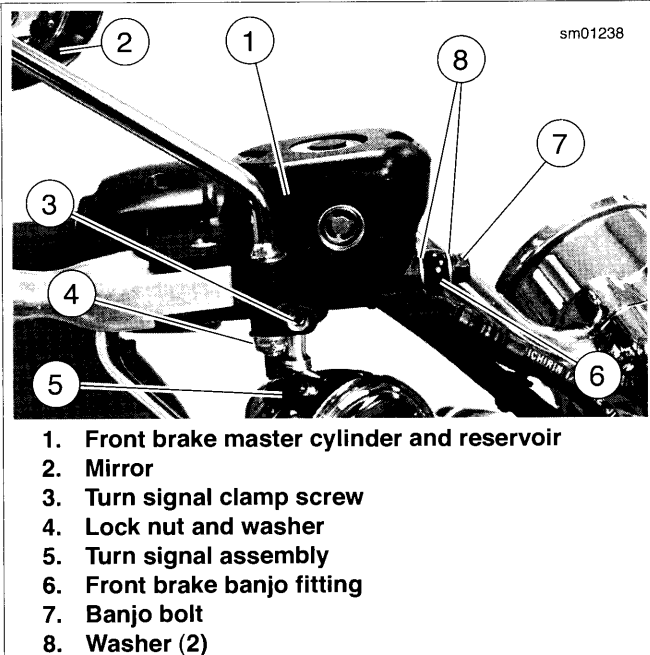

Figure 2-53. Front Brake Master Cylinder (typical: XL model shown)
- See Figure 2-53. Position a **new** washer (8) on each side of hydraulic brake line banjo fitting (6). Insert banjo bolt (7) through washers and fitting. Thread bolt into master cylinder housing. Tighten to 20-25 ft-lbs (27.1-33.9 Nm).
15. See Figure 2-53. Install mirror (2), secure with lock nut and washer (4). Position mirror for best rearward visibility. Tighten lock nut to 96-144 **in-lbs** (10.9-16.3 Nm).
16. Install turn signal assembly (5). Position so turn signal lens faces directly forward and turn signal does not strike fuel tank when handlebars are turned full right. Tighten clamp screw (3) to 96-120 **in-lbs** (10.9-13.6 Nm).